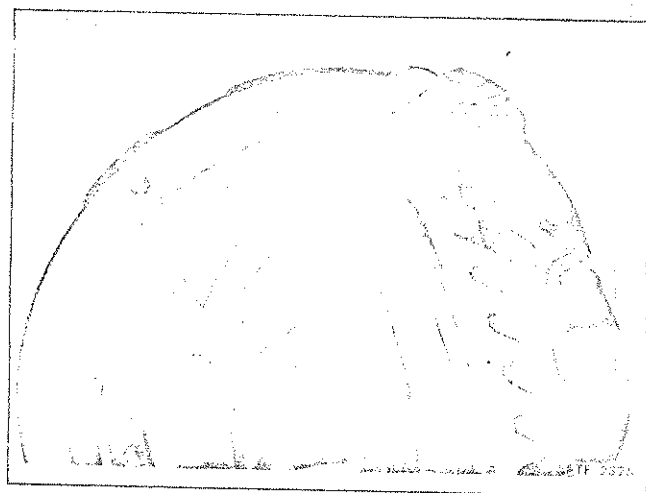

Figure 6—Typical Method of Checking Backlash
5. After completing adjustment of tooth contact and backlash, (fig. 6) tighten side bearing cap stud nuts fully and install adjusting ring locks (3) and bolts (2).
Level gears are cut to have a definite amount of backlash which varies according to the pitch and operating conditions. This backlash is necessary for the safe and proper running of the gears. If gears are set too tightly they will be noisy, wear excessively, and possibly score the tooth surfaces. Use a dial indicator (fig. 6) to adjust bevel drive gear and pinion gear backlash. Refer to "Specifications" at end of this section for limits.